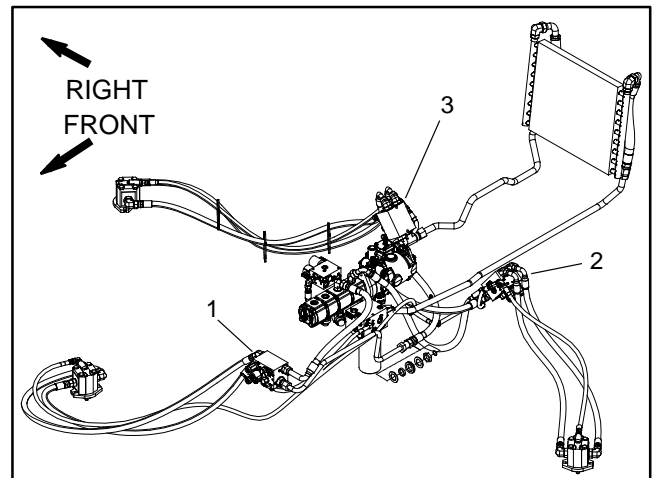

Figure 41
3. Locate deck manifold to be tested (Fig. 41). Disconnect hydraulic hose at deck manifold port (M1).